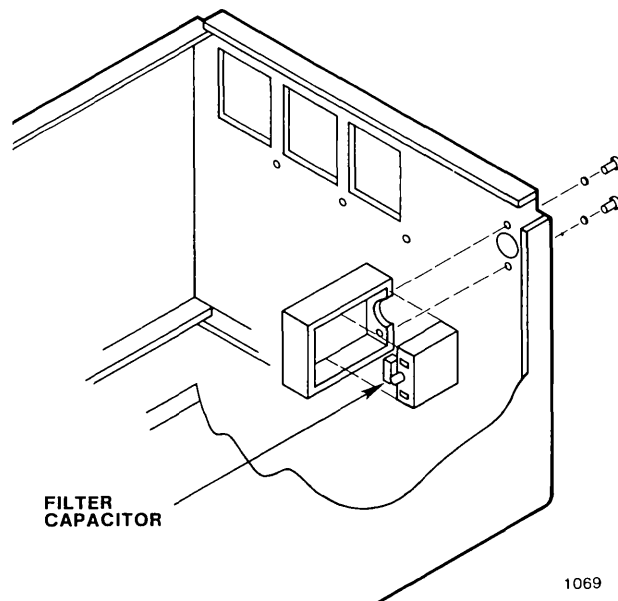

Figure 4-21. Filter Assembly Securing Screws
5. From the rear of the chassis, remove the two screws securing the AC line filter assembly to the back of the chassis weldment. Refer to Figure 4-21 for the location of the screws.